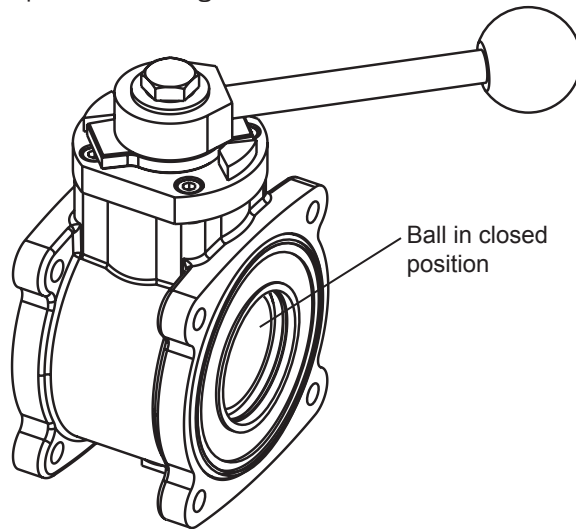

Figure 1
- A) Move valve to close position. See Figure 1.